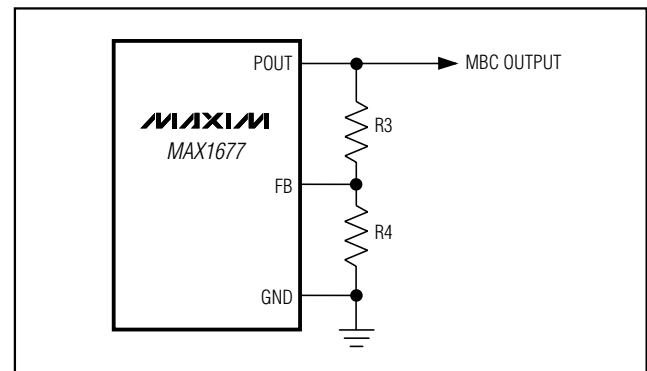

Figure 8. Setting the MBC Output Voltage Externally
The MBC feedback pin (FB) features Dual Mode operation. With FB grounded, the MBC output is preset to 3.3V. It can also be adjusted from 2.5V to 5.5V with external resistors, R3 and R4, as shown in Figure 8. To set the output voltage externally, select resistor R4 in the 10kΩ to 200kΩ range. Calculate R3 using: